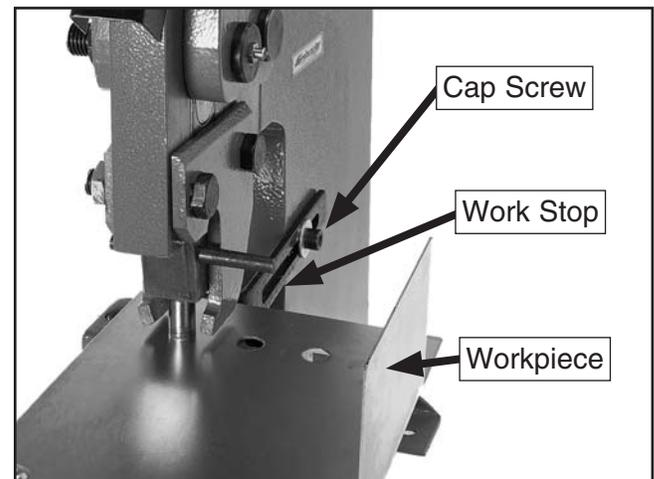

Figure 9. Work stops.
2. Once the cut is to your standards, lower the handle so that the punch goes through the hole you just made and into the die below (Figure 9).
3. Adjust the work stop as necessary to provide adequate support and proper alignment with the workpiece, then tighten the cap screw (Figure 9).